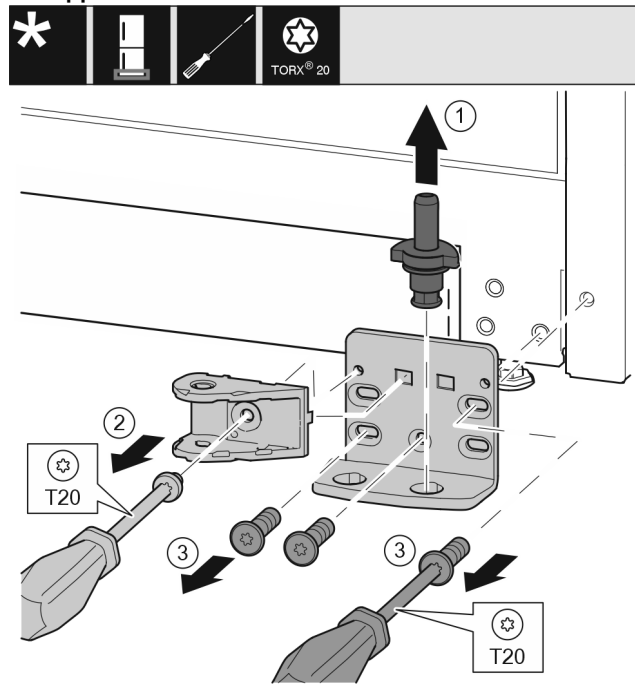

Fig. 34 *
- ▶ Lift the bearing pin completely upward and pull it out. Fig. 34 (1)*
- ▶ Take out the screw with a T20 screwdriver and take off the soft stop connection. Fig. 34 (2)*
- ▶ Take out the screws with a T20 screwdriver and take off the bearing bracket. Fig. 34 (3)*